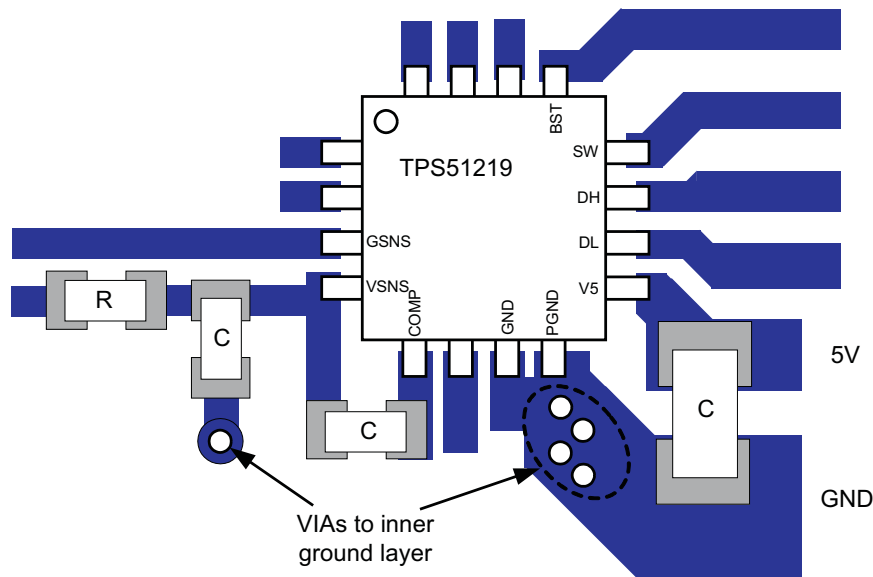

**Figure 30. DC/DC Converter Ground System**
- Loop #1. The most important loop to minimize the area of is the path from the  $V_{IN}$  capacitor(s) through the high and low-side MOSFETs, and back to the capacitor(s) through ground. Connect the negative node of the  $V_{IN}$  capacitor(s) and the source of the low-side MOSFET at ground as close as possible. (Refer to loop #1 of Figure 30)
- Loop #2. The second important loop is the path from the low-side MOSFET through inductor and  $V_{OUT}$  capacitor(s), and back to source of the low-side MOSFET through ground. Connect source of the low-side MOSFET and negative node of  $V_{OUT}$  capacitor(s) at ground as close as possible. (Refer to loop #2 of Figure 30)
- Loop #3. The third important loop is of gate driving system for the low-side MOSFET. To turn on the low-side MOSFET, high current flows from V5 capacitor through gate driver and the low-side MOSFET, and back to negative node of the capacitor through ground. To turn off the low-side MOSFET, high current flows from gate of the low-side MOSFET through the gate driver and PGND, and back to source of the low-side MOSFET through ground. Connect negative node of V5 capacitor, source of the low-side MOSFET and PGND at ground as close as possible. (Refer to loop #3 of Figure 30)